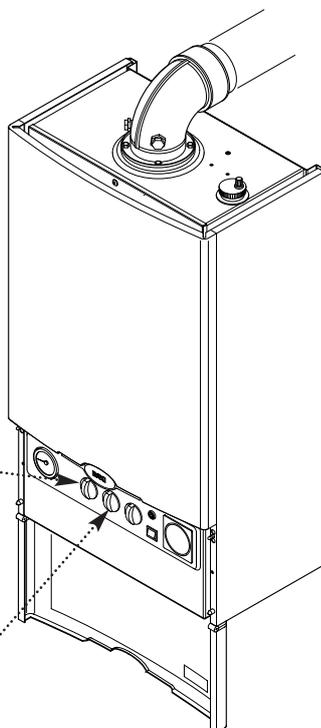

Fig. 6
- Turn the control knob clockwise to increase the temperature (Fig. 6).